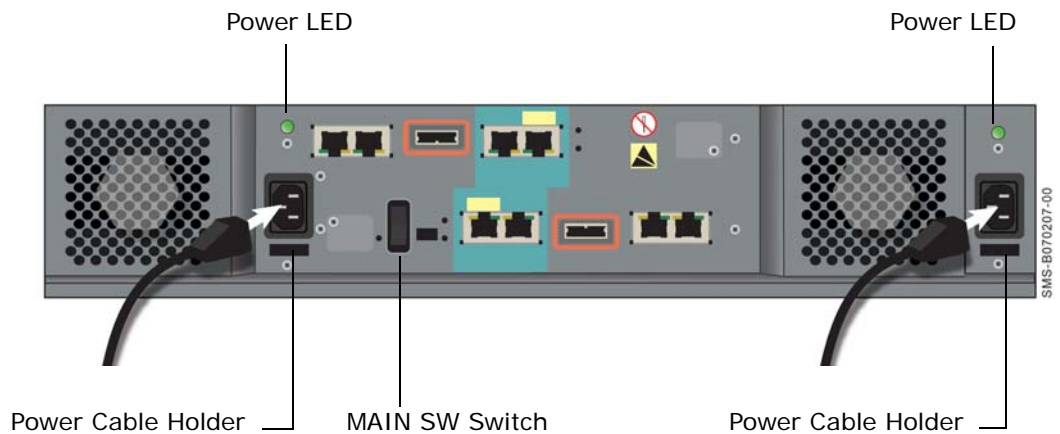

Figure 3-9: Attaching the Power Cables
1. Make sure the **MAIN SW** switch on the back panel is in the OFF position (see Figure 3-9 on page 3-17).
2. Attach one power cable to the 3-pronged power connectors on the back panel and secure with the power clamp (see Figure 3-9 on page 3-17). Attach the other end to a working AC outlet. Use the holder below the receptacle to secure the power cable. The green LED above the power receptacle blinks.